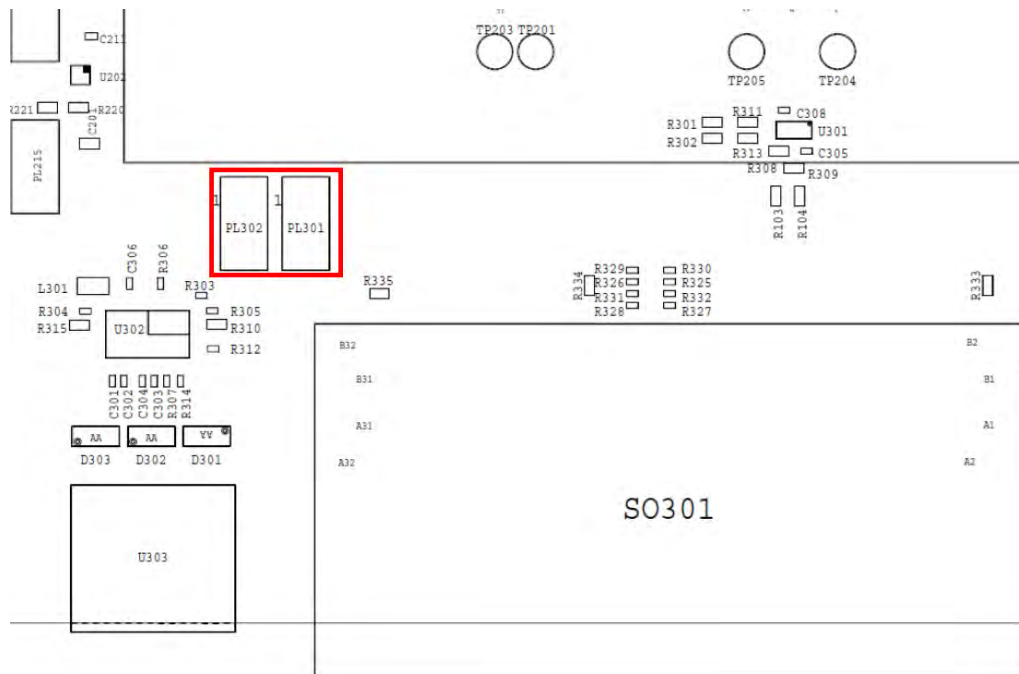

Figure 5: PCIe Host Power
The Jumper PL216 provides 1.8V I/O power for TLB circuit through external LDO. Place jumpers on PL216 2-3(L) as shown Figure 5. If PL216 1(P)-2 connected, FN990 internal power VREG_L6M_1P8 will be supplied to TLB circuit.
(2) VBATT AUX Power (PL215)